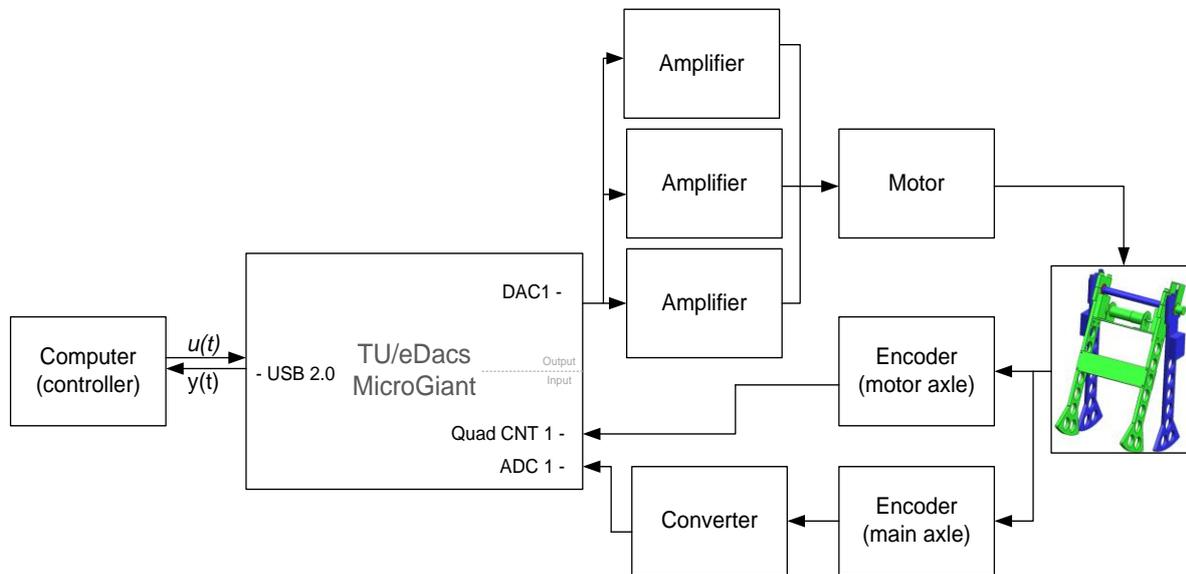

Figure 1.1. Connection scheme of the Stickman
- 5) Connect the Stickman to the TUe/DACs and the TUe/DACs to the laptop. This should be done as seen in Figure 1.1. If connected right there should go three wires from the TUe/DACs to the Stickman. One via the amplifier (in our case 3 amplifiers of $1.3A$ because these were available) to the motor of the Stickman. Make sure that the blue wire is connected to the + side of the motor and the white wire is connected to the - side of the motor. Else the signal of the motor-encoder will be in